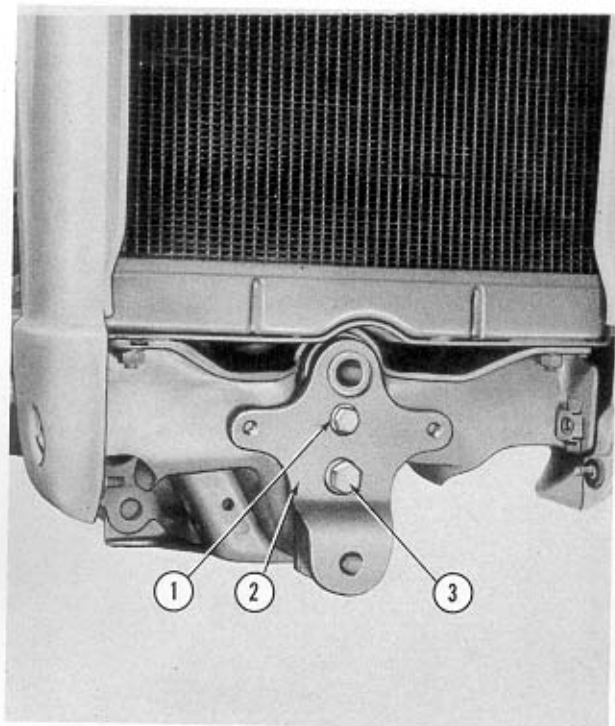

Figure 5
- Remove the bolt (1), Figure 5, from the front support of the tractor and insert the collar of the suspension plate (2) into the opening of the front support. Replace the bolt with the $\frac{1}{2}$ " x $1\frac{1}{2}$ " bolt and lockwasher (1) and install the $\frac{5}{8}$ " x $1\frac{1}{2}$ " bolt and lockwasher (3), Figure 5, as shown.
NOTE: The tractor grill has been removed for photographic purposes. It is not necessary to remove the grill to install the suspension plate (2), Figure 5.